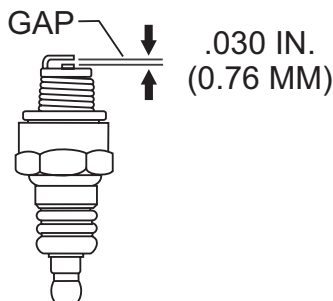

Figure 25. Spark Plug Gap Adjustment
5. Measure the spark plug electrode gap (Figure 25) with a wire-type feeler gauge. If needed, adjust the gap to .030 in. (0.76 mm) by carefully bending the side electrode.